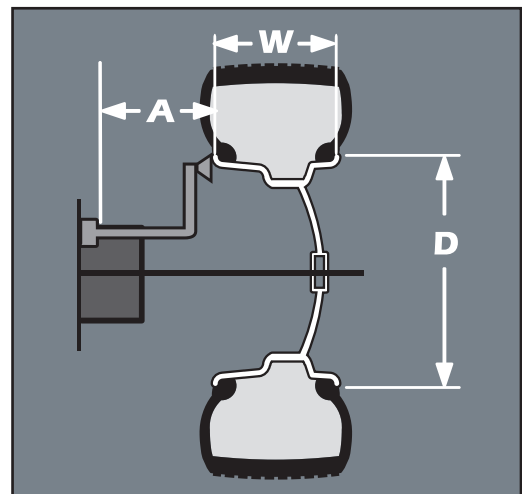

Figure 3 - A, W, and D Tire Dimensions
**Note:** Throughout this manual tire dimensions are referred to as A, W, and D, see figure 3.